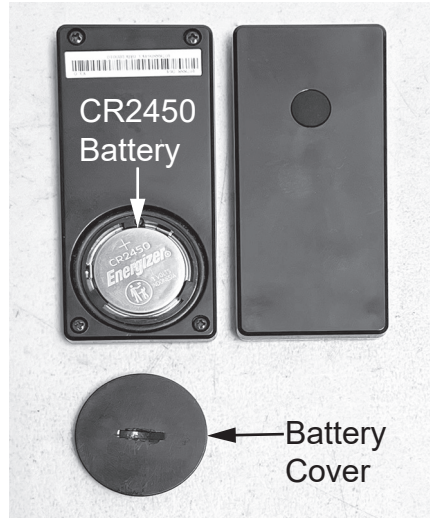

Figure 8 - Remote recirculation button(s) battery installation
- 19 Locate the remote recirculation buttons provided in the kit. Depending on the kit it may contain two (2) or three (3) buttons. See figure 8.
- 20 Remove the battery cover using a flathead screwdriver or coin. Place a CR2450 coin style battery into the compartment, positive side up. See figure 8.